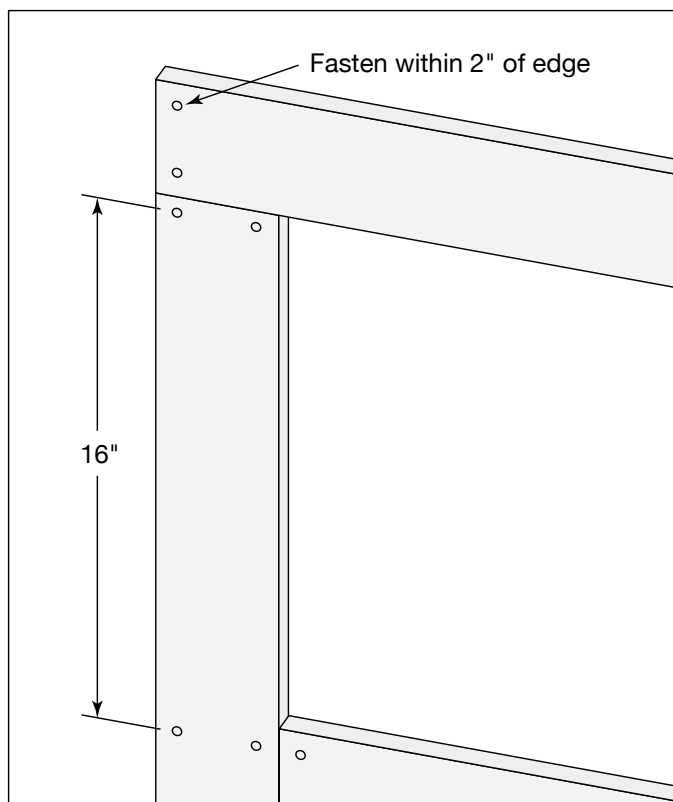

Fig. 7
- When installing TruExterior Trim, allow the top trim pieces to extend to the edges of the vertical trim pieces. The bottom trim should fit between the two vertical side pieces (**Fig. 7**).